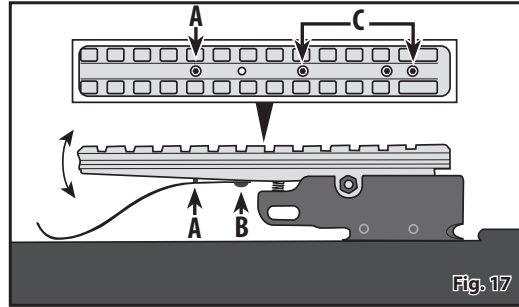

Fig. 16
- Place the arrow/bolt so that the cocking vane/fletching (the odd colored vane/fletching), is down in the flight groove (Fig. 16)